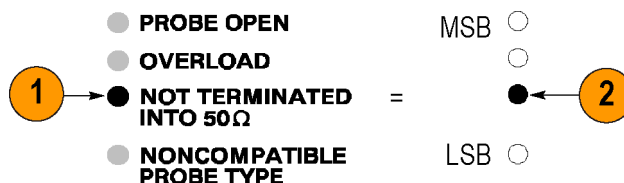

Figure 27: Interpreting the error code display
3. The four fault indicator LEDs above the ON/STANDBY switch are used to form a four-bit binary error code. (See Figure 27 on page 46.) The error codes are defined in the table. (See Table 7 on page 46.)
2. This four-bit binary code (0010) indicates an Error Code 2: a null error in the DC offset circuit occurred. (See Figure 27.)